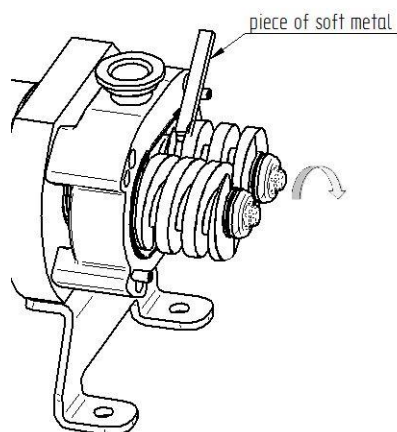

Fig. 36 – assembly of CW screw
- Type 3: electric motor CW direction of rotation. Position of the screws and fluid direction as shown in Fig.36, discharge side on the side of the pump.